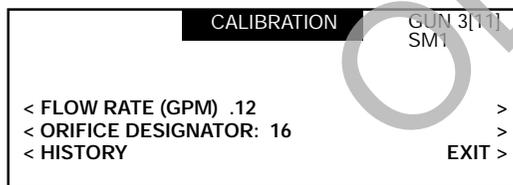

Fig. 4 CALIBRATION screen
1. See Figure 4. Setup Calibration information.
4. See Figure 4. To view calibration history, select HISTORY for the date, time, and settings of the last four calibrations.